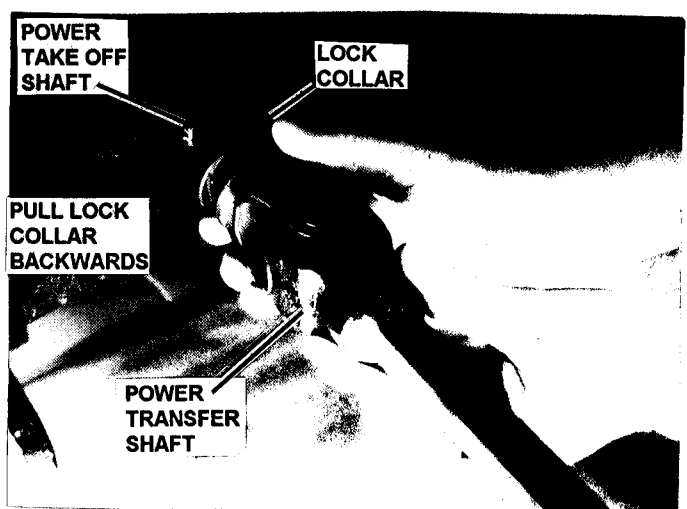

FIGURE 3.12
5. Pull lock collar back and slide power transfer shaft away from power take off (PTO) shaft. See Figure 3.12
Engage parking brake. Turn engine "OFF" and remove key. The power transfer shaft connects the power unit to the mower deck. The shaft is telescoping for easy removal. Slide locking collar back toward mower deck and shaft will slide off. Refer to Figure 3.12